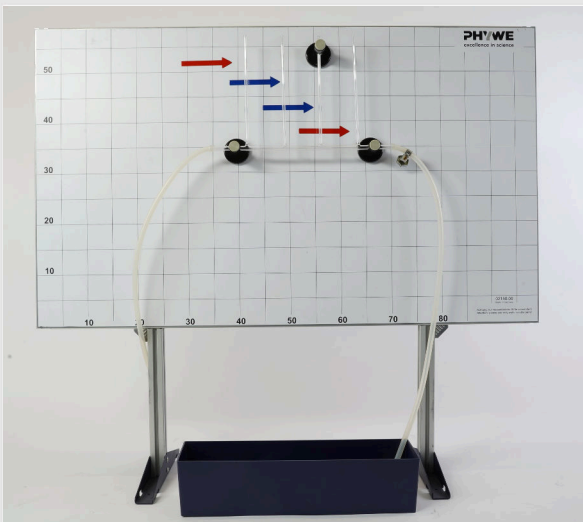

Fig. 2
- Attach the flow pipe with a constant diameter horizontally to the demo board using the clamps and secure it against tilting using the hook (Fig. 2)